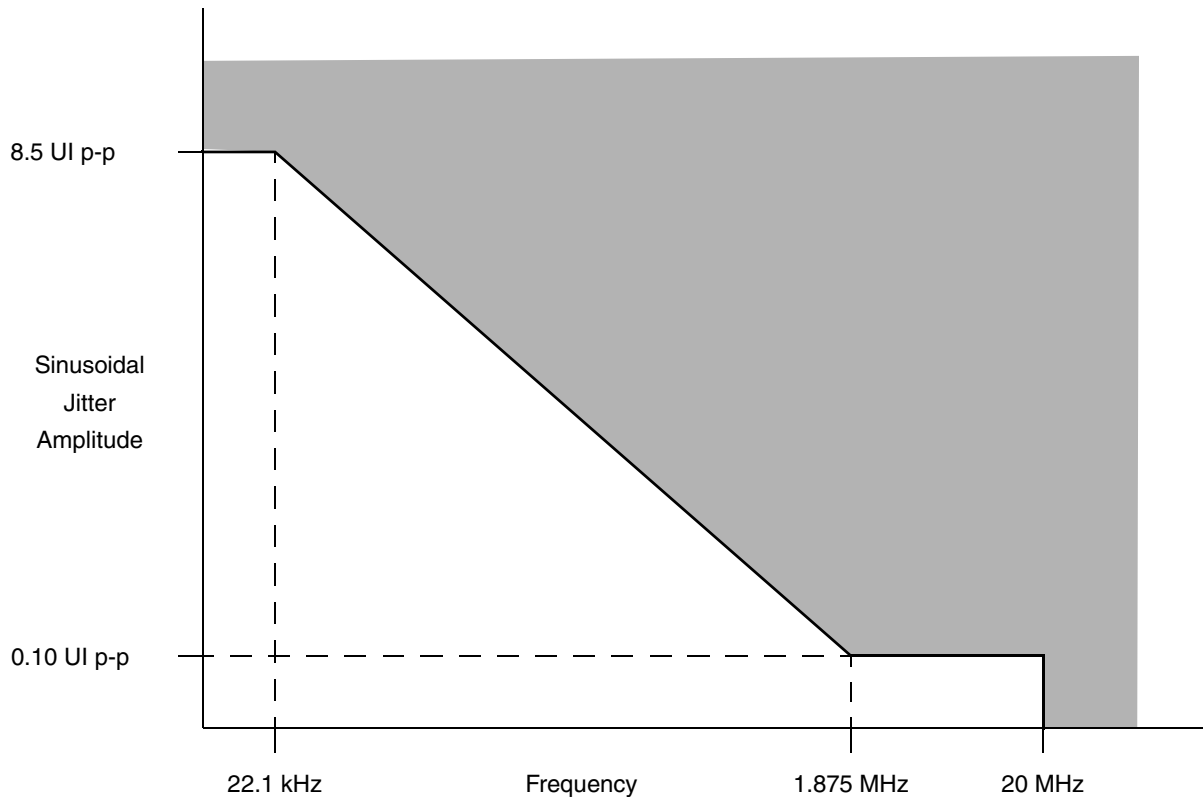

Figure 48. Single Frequency Sinusoidal Jitter Limits
- See Figure 48 for single frequency sinusoidal jitter limits
The sinusoidal jitter in the total jitter tolerance may have any amplitude and frequency in the unshaded region of Figure 48.